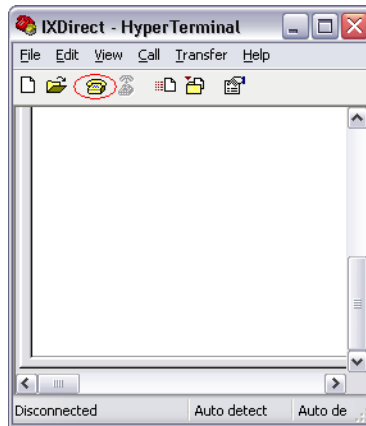

Figure 5: Connect Icon – HyperTerminal
- Once the DB-9 cable is attached, you will need to click on the “connect” icon, as in Figure 5: Connect Icon – HyperTerminal.